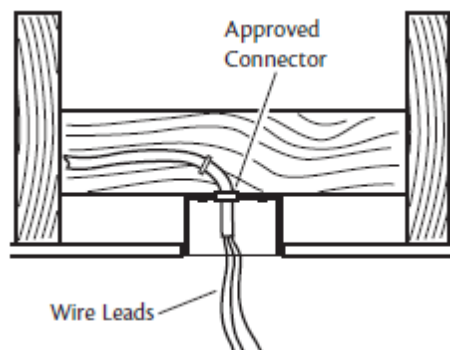

Figure 8 – Preparing the Wiring
2. Thread the fan supply line through the outlet box so that the fan supply line extends at least 6" beyond the box as show in Figure 8.
3. Attach the fan supply line to the outlet box with an approved connector, available at any hardware store or electrical supply house. Refer to Figure 8.